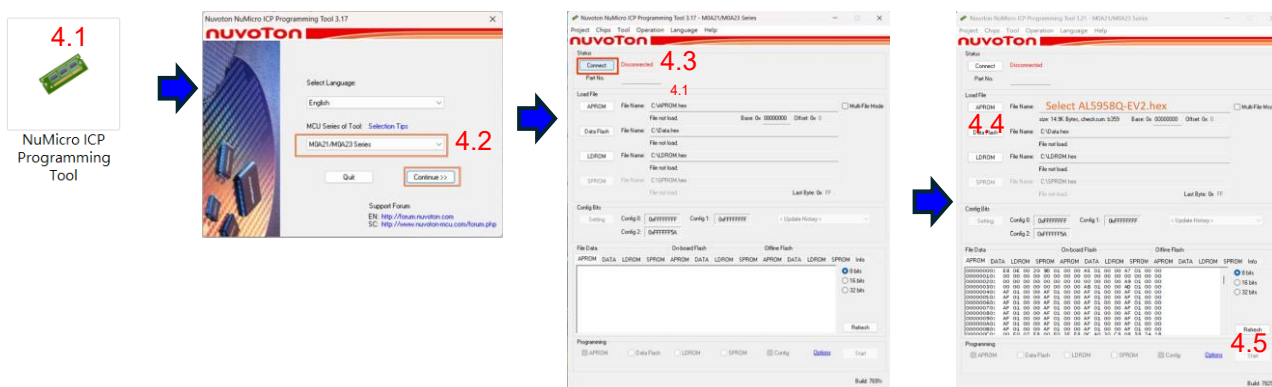

Figure 6. NuMicro ICP Programming Tool setting
- 4.1 Open NuMicro ICP Programming Tool: After hardware setup, launch the NuMicro ICP Programming Tool on your PC, as shown in Figure 6.